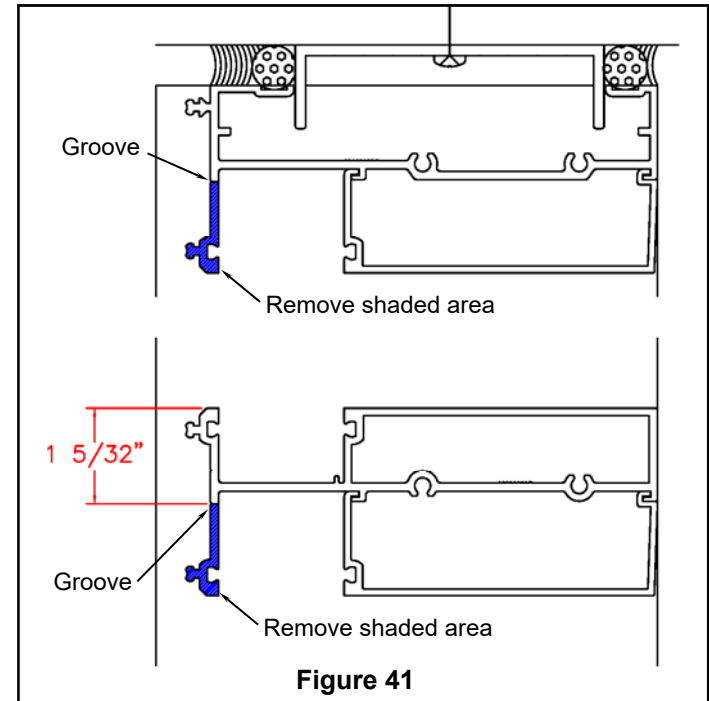

Figure 41
- * Cut off the bottom exterior leg of the horizontal or head member above the opening. Cut at the “V-groove” in the face of the leg. (see figure 41)